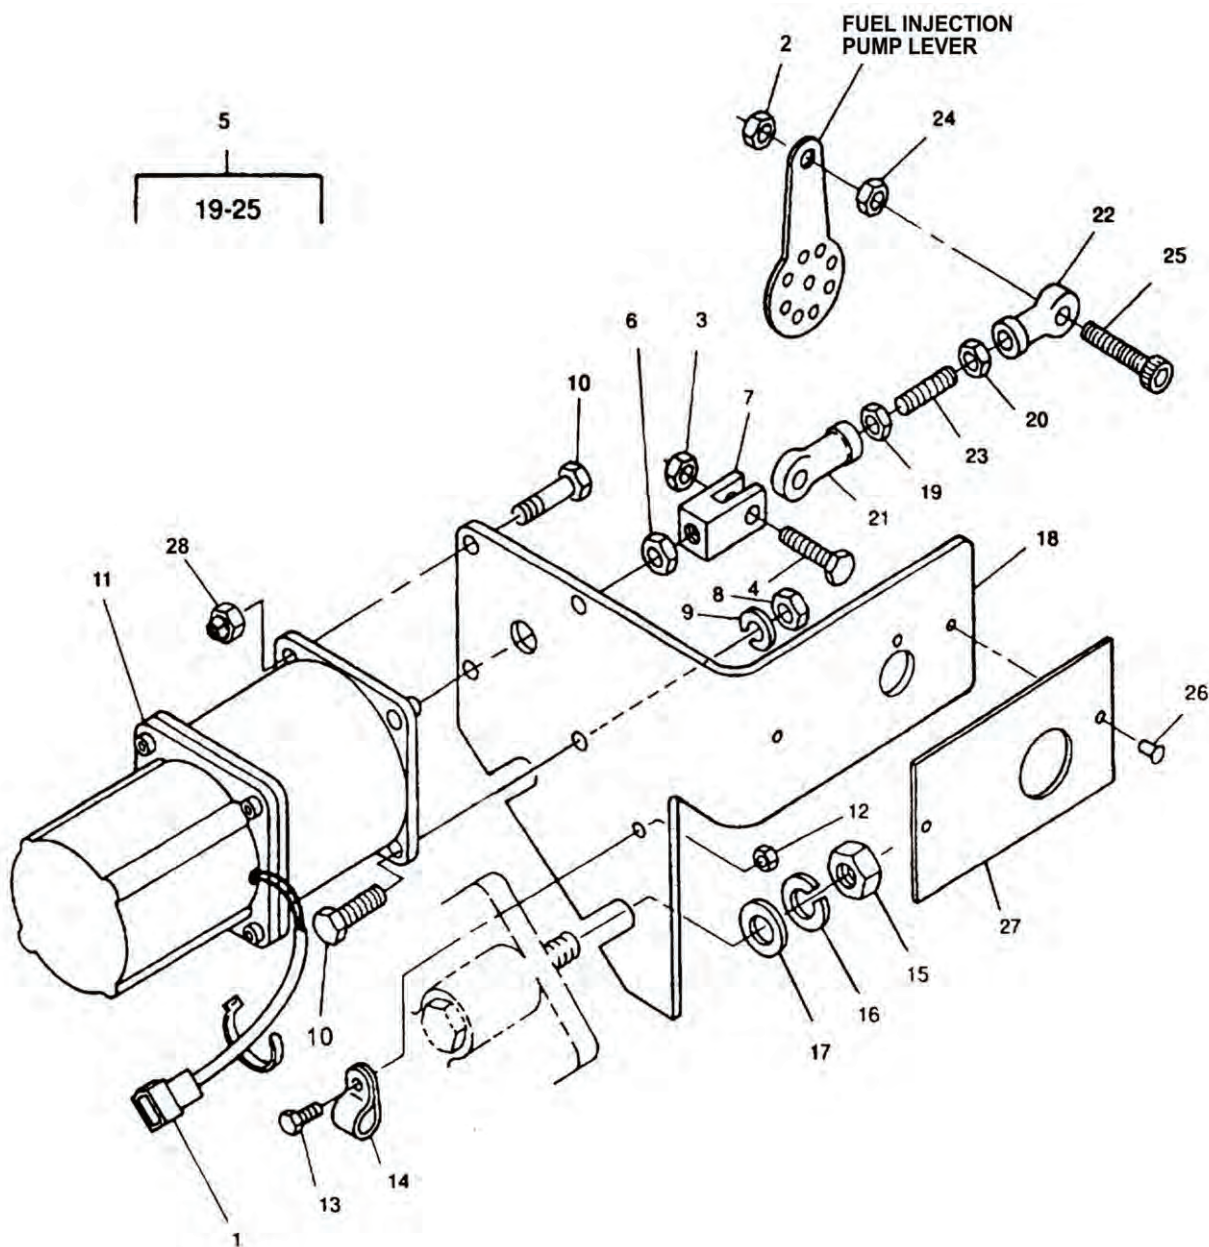

Figure 1. Governor Actuator Assembly.
3. Open left side engine access doors and disconnect connector (Figure 1, Item 1) from engine electrical harness.
4. Connect 5 ohm, 25 watt resistor in series with pin 2 of connector (1) and ground.
5. Connect jumper wire from pin 1 of connector (1) to battery positive terminal (24 VDC).
6. Connect negative battery cable; governor actuator (11) shaft should extend to full fuel position.
7. Disconnect negative battery cable; governor actuator (11) shaft should retract to no fuel position.
8. Replace governor actuator (11) if it does not function as above.
9. Remove resistor and jumper wire from connector (1), ground, and battery.
10. Connect connector (1) to engine electrical harness. Close left side engine access doors.
4. Tag and disconnect connector (Figure 1, Item 1) from engine electrical harness.
5. Remove nuts (2 and 3), bolt (4), and rod assembly (5) from fuel injection pump lever and clevis (7).
6. Loosen nut (6) and unscrew clevis (7) from governor actuator (11) shaft.
1. If disassembled, screw rod ends (Figure 1, Items 21 and 22) onto rod (23) the same number of turns noted on disassembly, and tighten nuts (19 and 20) finger tight only.
2. If removed, install bolt (25) and nut (24) into rod end (22).
3. If removed, install identification plate (27) on bracket (18) with rivets (26).
4. Install mounting bracket (18) on front cover mounting bolts with washers (17), new lockwashers (16), and nuts (15).
5. Secure electrical wiring to mounting bracket (18) with clamp (14), bolt (13), and nut (12).
6. Install governor actuator (11) on mounting bracket (18) with bolts (10), new lockwashers (9) and nuts (8 and 28).
7. Screw clevis (7) on governor actuator (11) shaft the same number of turns noted on disassembly, and tighten nut (6) finger tight only.
8. Install rod assembly (5) on injection pump lever and clevis (7) with bolt (4) and nuts (2 and 3).
10. Connect connector (1) to engine harness and remove tag.